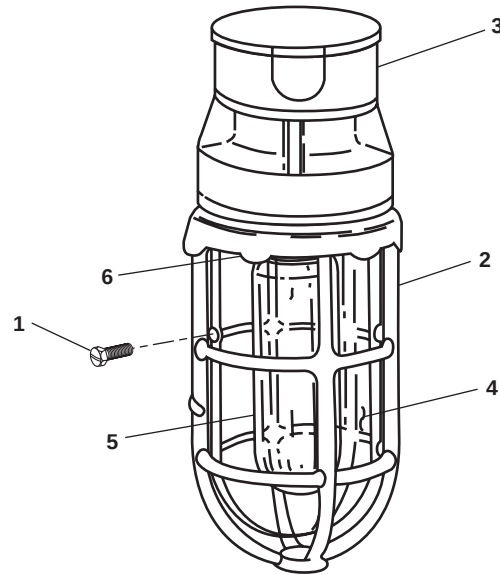

Figure 1. Explosion Proof Lighting Fixture
1. Remove the screws (figure 1, item 1) and remove the guard (figure 1, item 2) from the lighting fixture (figure 1, item 3).
2. Remove the globe (figure 1, item 4) from the lighting fixture (figure 1, item 3).
3. Remove the lamp (figure 1, item 5) from the lamp socket (figure 1, item 6).
1. Install the lamp (figure 1, item 5) into the lamp socket (figure 1, item 6) hand tight.
2. Install the globe (figure 1, item 4) until hand tight.
3. Install the guard (figure 1, item 2) and secure it with the screw (figure 1, item 1).